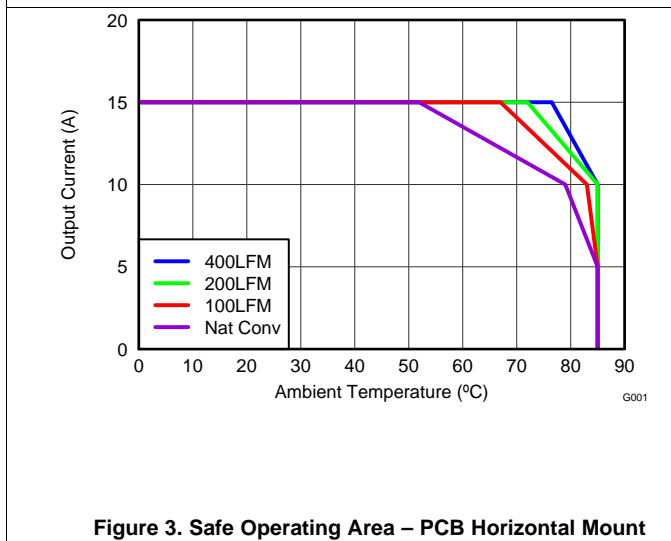
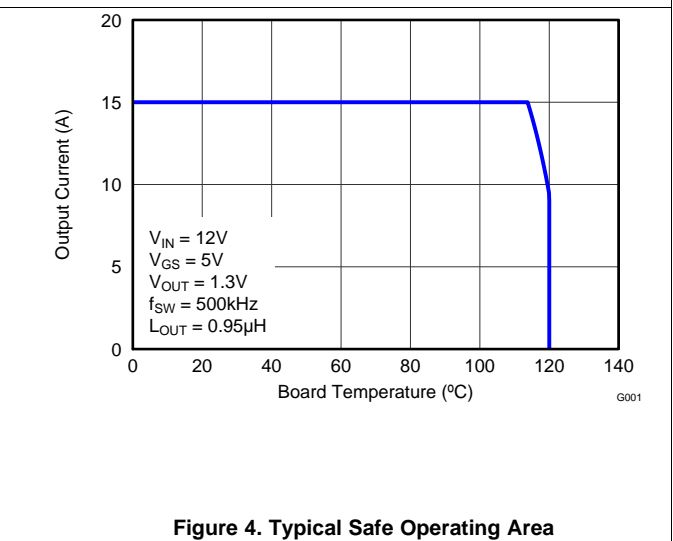

Figure 3. Safe Operating Area – PCB Horizontal Mount
Figure 4. Typical Safe Operating Area
$T_j = 125^{\circ}\text{C}$, unless stated otherwise. For Figure 3 and Figure 4, the Typical Power Block System Characteristic curves are based on measurements made on a PCB design with dimensions of 4 inches (W) × 3.5 inches (L) × 0.062 inch (H) and 6 copper layers of 1 oz. copper thickness. See Application and Implementation for detailed explanation.
$T_J = 125^\circ\text{C}$, unless stated otherwise. For Figure 3 and Figure 4, the Typical Power Block System Characteristic curves are based on measurements made on a PCB design with dimensions of 4 inches (W) x 3.5 inches (L) x 0.062 inch (H) and 6 copper layers of 1 oz. copper thickness. See Application and Implementation for detailed explanation.
The SOA curves in the CSD87381P data sheet provides guidance on the temperature boundaries within an operating system by incorporating the thermal resistance and system power loss. Figure 3 to Figure 4 outline the temperature and airflow conditions required for a given load current. The area under the curve dictates the safe operating area. All the curves are based on measurements made on a PCB design with dimensions of 4 inches (W) × 3.5 inches (L) × 0.062 inch (T) and 6 copper layers of 1 oz. copper thickness.